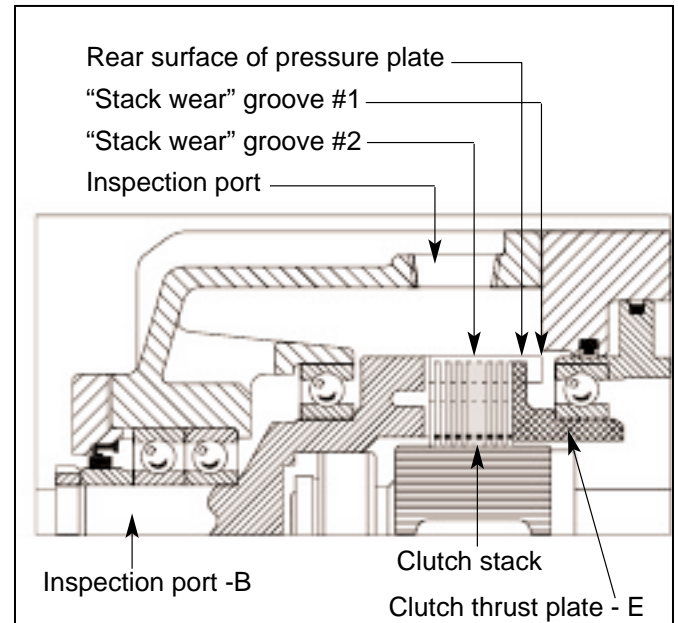

Figure 11.3 BRAKE AND CLUTCH STACKS FOR WEAR.
6. Using a flashlight, observe the clutch stack through the inspection port (A) (see figure 11.3).